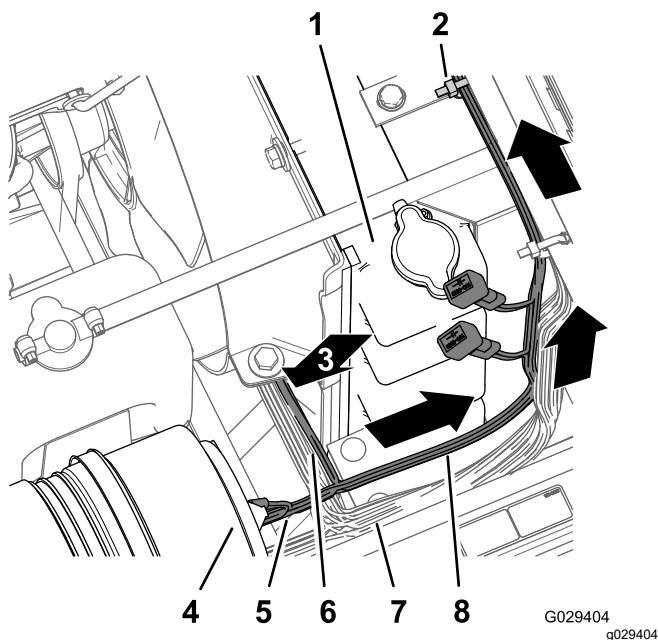

Figure 11
1. Route the wire harness for the finishing kit forward between the ROPS bar and the lower corner of the sprayer tank, along the wire harness of the machine, and below the air cleaner for the engine (Figure 10 and Figure 11).
- Route the 197 cm (77-1/2 inch)—engine-compartment branch of the wire harness (with the ring terminal, socket terminal, and 5-socket connector) up along the right side of the radiator, across the top of the radiator, and under the base of the center console (Figure 11).